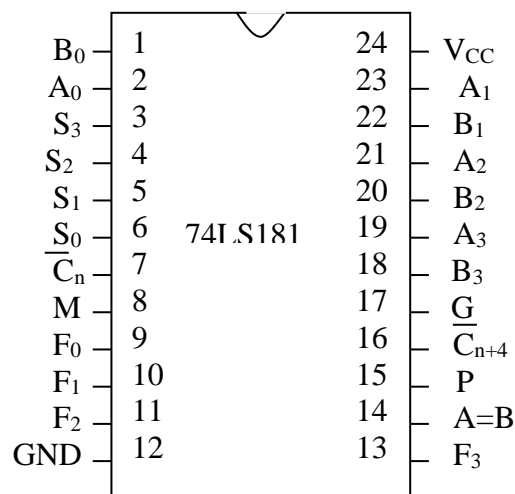

Fig. 2
Fig 1 and Fig. 2 show the block diagram and connection diagram for IC 74LS181. As shown in the Fig. 2, 74LS181 has two four bit operands ($A_0 - A_3$ and $B_0 - B_3$). Its mode select input selects one of the two modes : arithmetic or logic, and four function select inputs select a particular function from the selected mode. Table(1) gives the pin description for IC 74LS181.